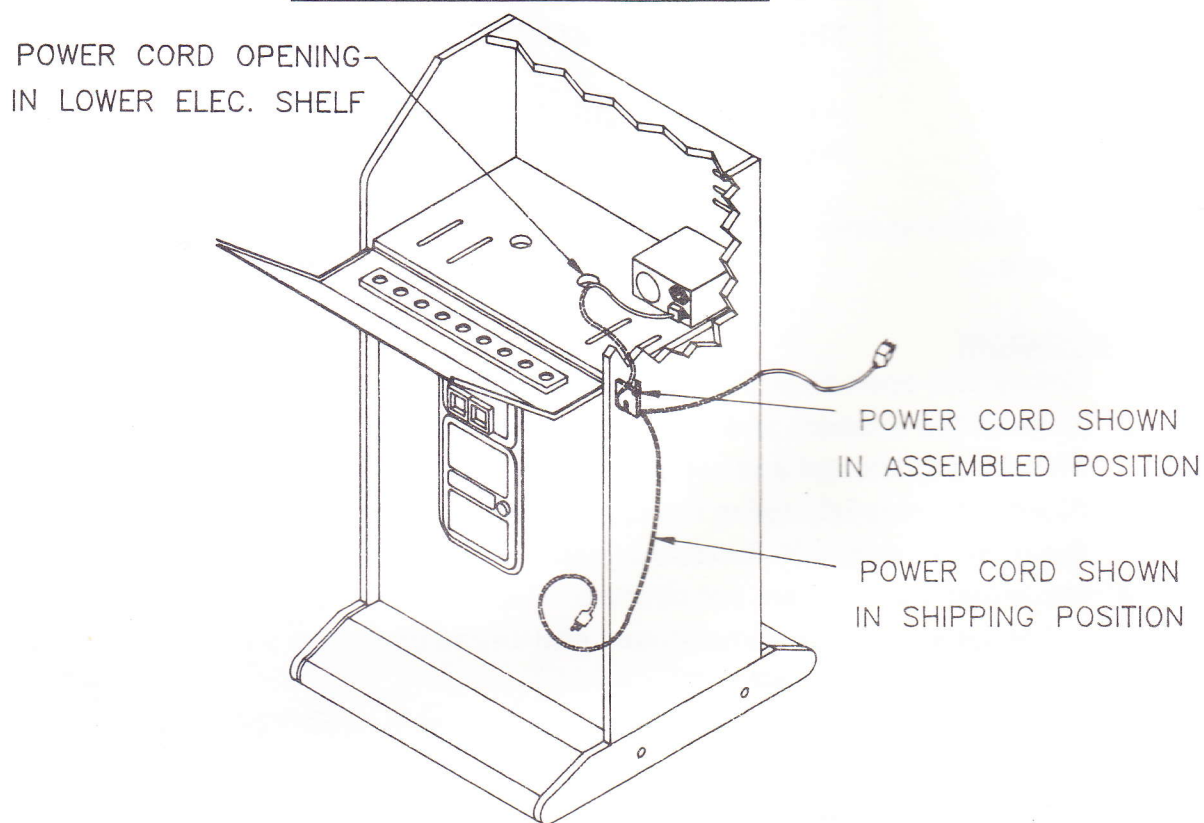

FIG. 1
5. This game is equipped with an easily replaceable power/line cord which is located inside the pedestal when shipped and must be routed through the opening at the back of the game prior to operation. Review FIG. 1 on page 2 before proceeding.